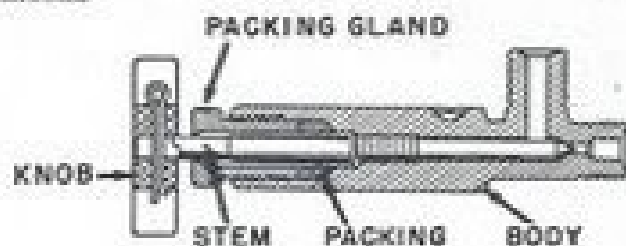

Figure 13. Fuel valve (sectional view).
a. **GENERAL.** The fuel valve (fig. 13) is the valve at the upper right-hand corner of the front panel of the burner. When this valve is opened the fuel passes from the fuel tank to the input end of the generator. This valve is used to shut the fuel off when the flame is to be extinguished.
b. **REMOVAL.** (1) Relieve pressure in fuel tank by opening fuel tank filler cap.
(2) Remove the valve knob by withdrawing the cotter key.
(3) Remove the packing gland by turning the nut counterclockwise.
(4) Disconnect the tubes from the valve body.
(5) Withdraw the setscrew which holds the valve body in the front panel.
(6) Pull the valve body to the rear out of the unit front panel.
c. **INSTALLATION.** (1) Place the valve (less packing gland) into the front panel from the rear so that the setscrew in the front panel will seat in the hole in the body of the valve. Tighten the setscrew enough to hold the valve in place.